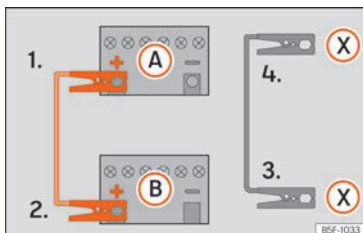

Fig. 44 Diagram of connections for vehicles with Start-Stop system.
- 4b. *In vehicles with a Start-stop system:* connect one end of the *black* jump lead (X) to a suitable ground terminal, to a solid piece of metal in the engine block, or to the engine block itself »» Fig. 44.
5. Connect the other end of the *black* jump lead (X) to a solid metal component bolted to the engine block or to the engine block itself of the vehicle with the flat battery. Do not connect it to a point near the battery (A).